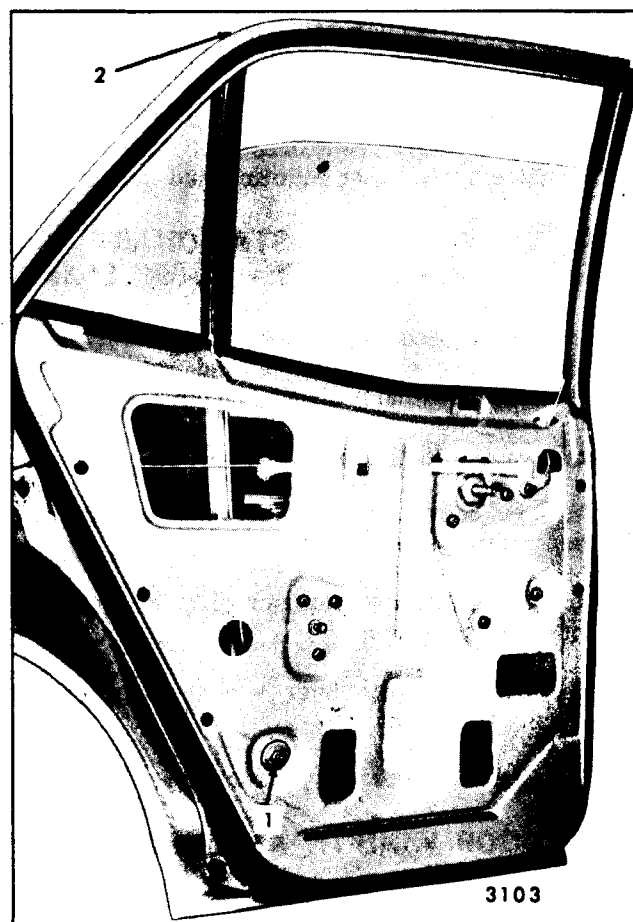

Fig. 6-128-Rear Door Window Removal and Adjustments - "X-69" Styles
1. Remove door trim assembly and detach inner panel water deflector sufficiently to gain access to the lower adjusting stud and nut ("1", Figure 6-128).
3. Remove ventilator division channel lower adjusting stud and nut. ("1", Figure 6-128).
4. Carefully lower door window and remove division channel to door upper frame attaching screw. ("2", Figure 6-128).
Adjustment has been provided to relieve a binding door glass due to misalignment of the ventilator division channel. ("1", Figure 6-128).